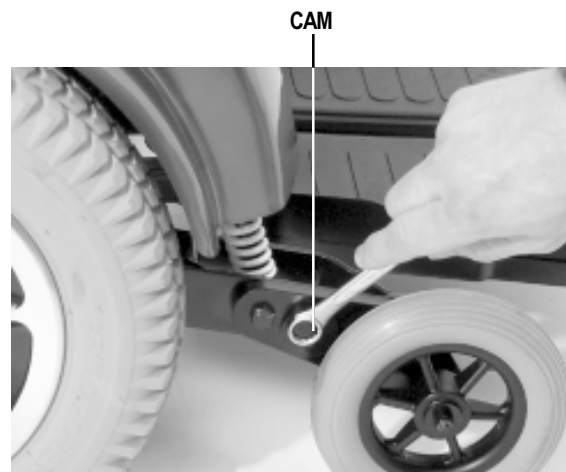

Figure 17. Anti-Tip Wheel Adjustment
4. To adjust the anti-tip upward, turn the cam counterclockwise. To adjust the anti-tip downward, turn the cam clockwise. See figure 17.